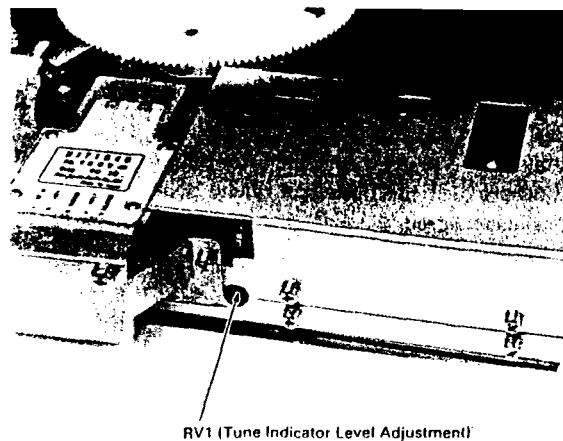
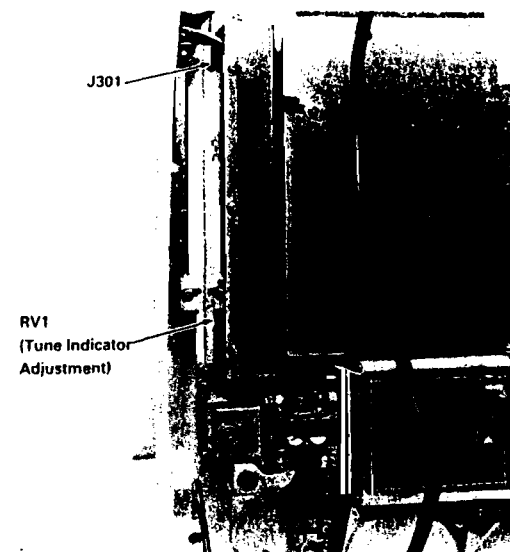

FIG. 5-4 RECEIVER ADJUSTMENT RADOME SCANNER
FIG. 5-5 RECEIVER ADJUSTMENT OPEN ARRAY SCANNER
- b) Connect the voltmeter to J2-7 (R10X) or J301-8 (R11X) as shown in Fig. 5-4 and Fig. 5-5.